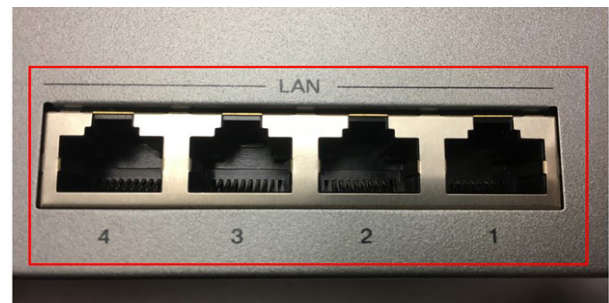

Figure 2
7. Connect a CAT5 cable to your laptop and the other end to one of the 4 LAN ports on the RV340 Cisco Router. (Figure 2)